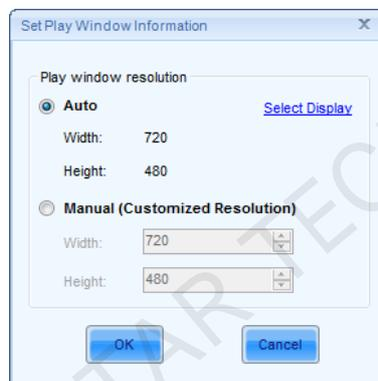

Fig. 10-17 Play window information
- a) Click **Select Display** in Fig. 10-17 to enter display list.